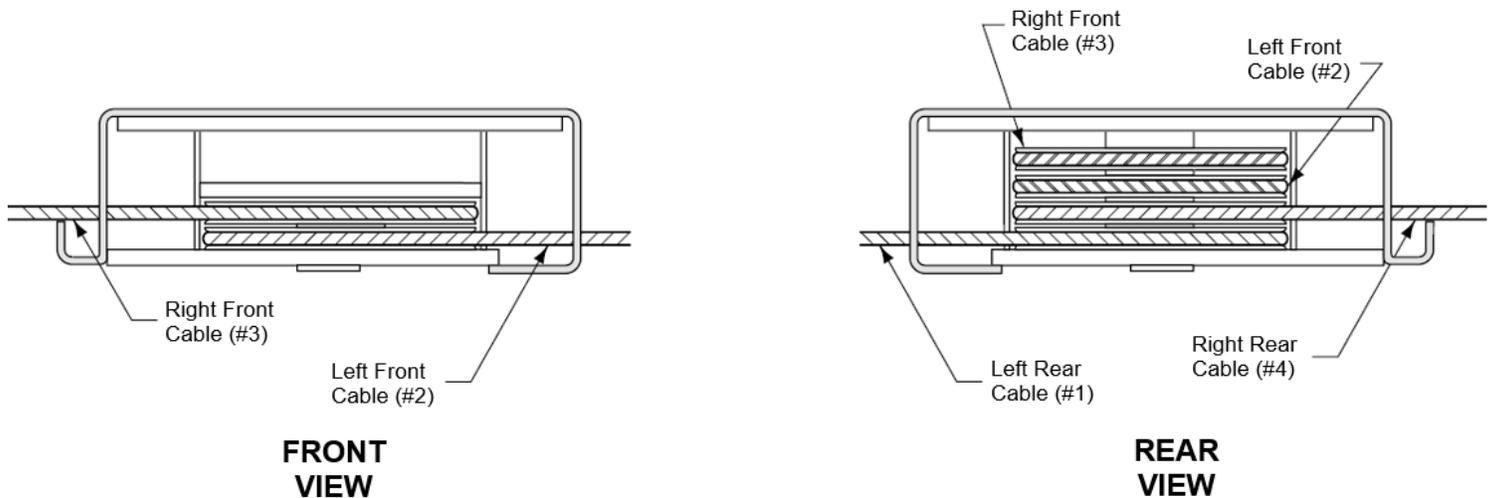

Fig. 5
- 2) Pull cable ends, air tubing and hydraulic lines out from the ends of the Main Side Runway for assembly. Ensure cables are in the proper sheave grooves, Fig. 5.